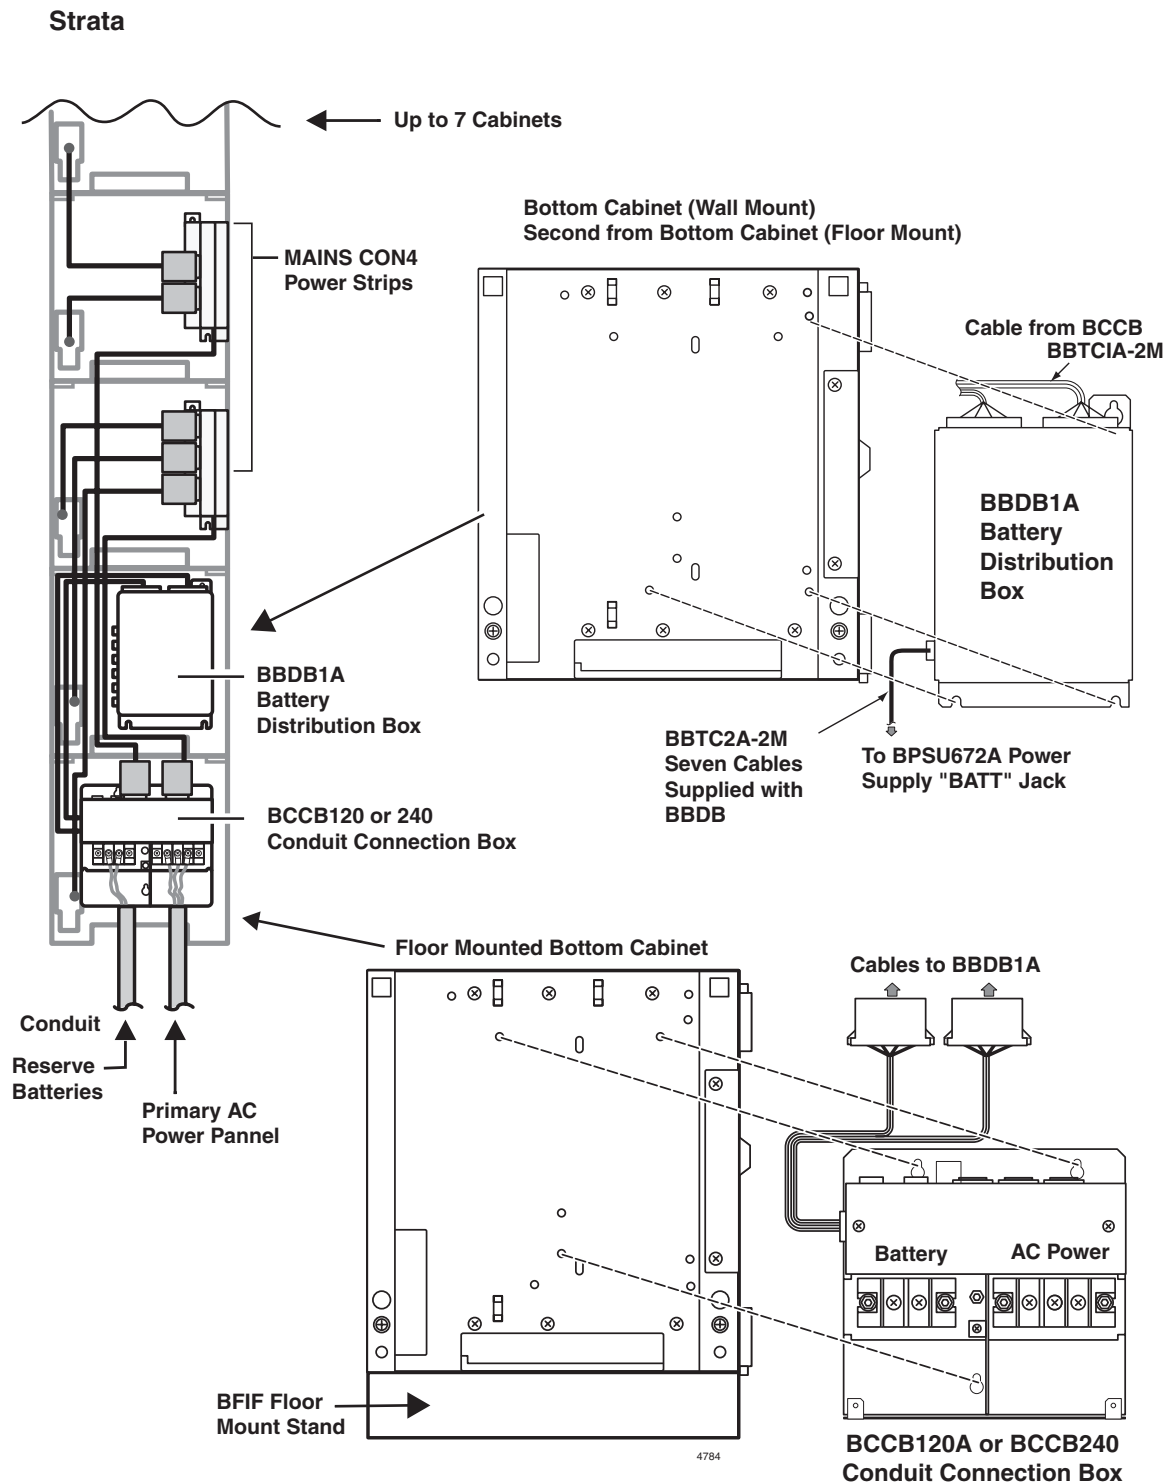

Figure 3-20 Battery Distribution and Conduit Connection Box Installation
1. Make sure that the Conduit Connection Box is installed on the bottom base cabinet (see Figure 3-20). The box can be installed by the regular system installer.
3. Install the Battery Distribution Box on the second cabinet (the cabinet directly above the bottom cabinet), see Figure 3-20.